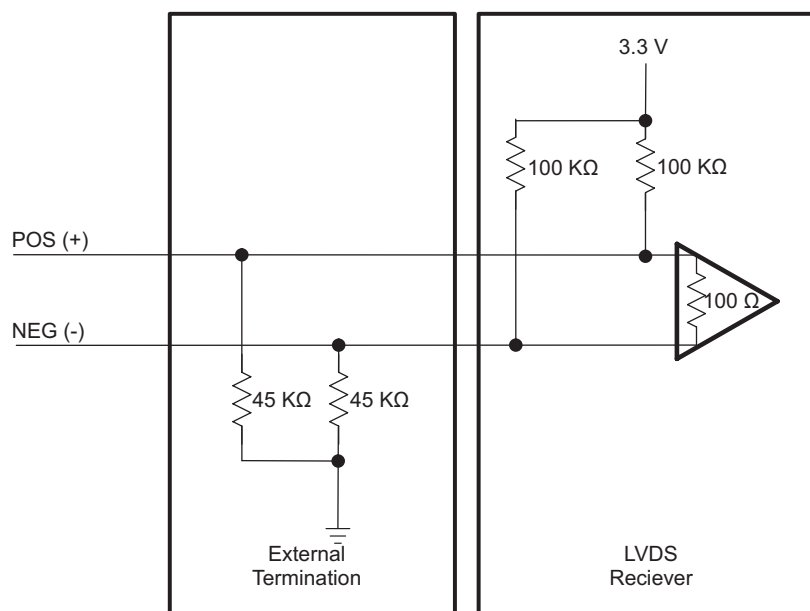

Figure 5. External Terminations: Receiver With 100 Ω and Pull-Ups
- If the LVDS receiver includes 100 Ω terminations and internal pull-ups (sometimes used for fail-safe), use the type of termination shown in Figure 5. Adjust the external resistor values based on the V_{CC} and internal resistors in order to generate a bias voltage of 1.0 V to 1.2 V.